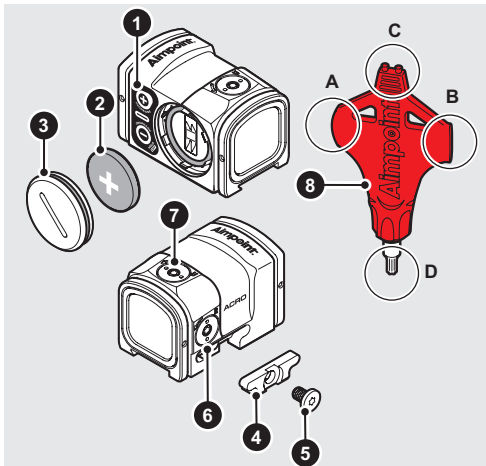

Fig. 1 Overview
- c Insert battery (2) with the positive end (+) toward the battery cap (3) as seen in Fig. 1.